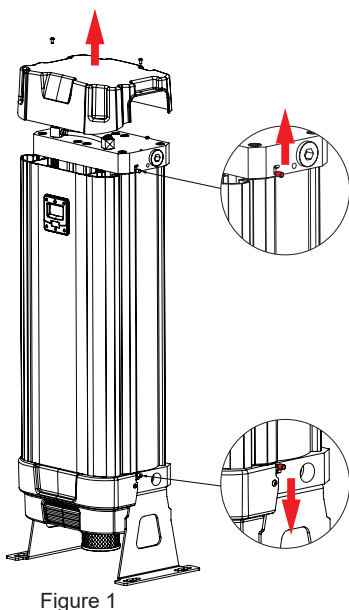

Figure 1
- Locate the two latches on the top and bottom manifold and pull in the opposite direction to each other to open the shroud, this will then expose the controller (See Fig 1.)